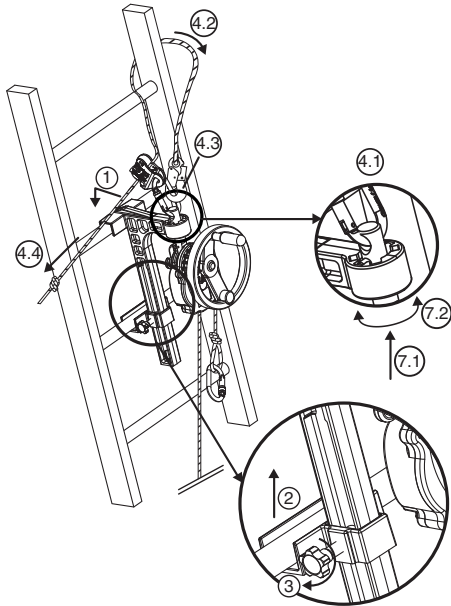

Fig.6
6.3.2 DEROPE™ UP B descender (Fig.6)
1. Place the large locking bracket on the ladder bar in the position chosen to carry out the rescue operation above the person to be evacuated (Fig.6, 1).
2. Push up the locking slide at the ladder bar immediately below the bar receiving the large bracket (Fig.6, 2).
3. Tighten the locking pin securing the slide using the clamping knob located on the side of the bracket (Fig.6, 3).
- Secure the connector of the adjustment device LCM 05 in the hole at the top of the fastening pin (Fig.6, 4.1).
- Run the belay lanyard around the ladder bar located above the bracket, going around one of the ladder uprights (Fig.6, 4.2).
- Connect the belay lanyard connector in the connector of the adjustment device LCM 05 (Fig.6, 4.3).
(Fig.6, 4.4).
7. Align the DEROPE™ descender as may be required, modifying the position of the fastening pin in the indexing device (Fig.6, 7.1 – 7.2).